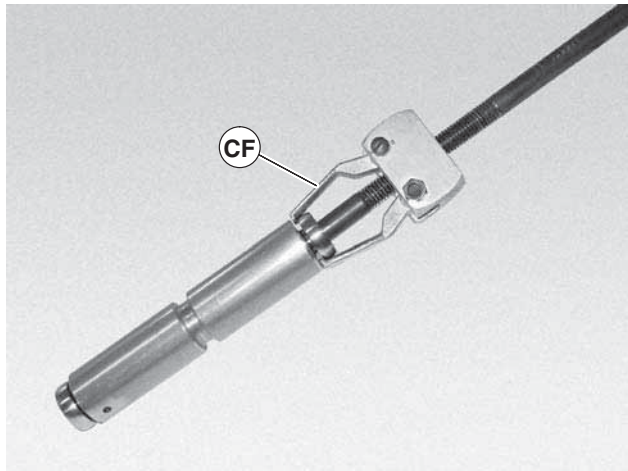
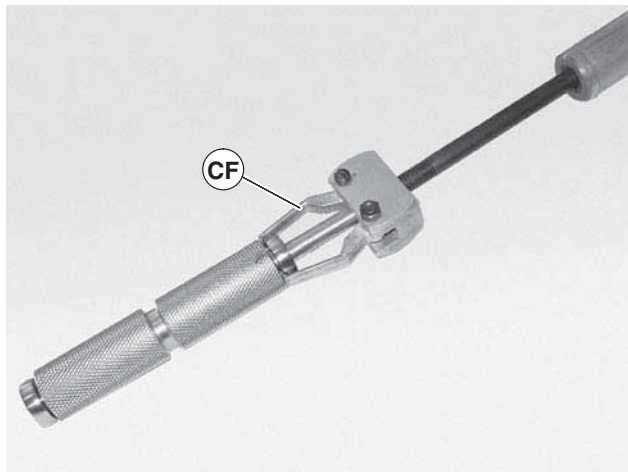

Figure 48
Figure 49
1. Use a bearing removal tool, (Figure 48, item CF), (Figure 49, item CF), part number 807-1078, or equivalent and remove both bearings from the conveyor pulley and the drive pulley.